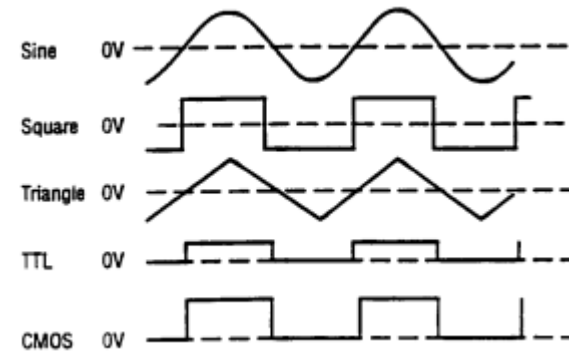

Figure 2. Output Waveform and Phase Relationship
- Initially, verify that the **DUTY CYCLE** (2), **CMOS LEVEL** (3), **DC OFFSET** (4), **-20dB** (5), and **SWEEP EXT/INT** (22), and **AM/FM** (35) switches are in the released position. This will produce a symmetrical waveform unaffected by the sweep generator and other controls.
- Plug the unit into an appropriate power source and turn it on by depressing the **POWER** switch (1).
- Select the desired waveform (**SINE**, **SQUARE**, or **TRIANGLE**) by depressing one of the **FUNCTION** switches (9). Phase relationships of the waveforms are shown in Fig. 2.
- Select the frequency of the waveform by depressing one of the **RANGE** switches (6). The output frequency is displayed, along with the appropriate measurement units. **KHz** or **Hz** (31), on the LED display.
- Rotate the **COARSE** (28) frequency control to quickly set the output frequency to the approximate desired value. The **FINE** (26) frequency control can then be used to easily set the output to the specific desired value. The frequency selected is available at the **OUTPUT** jack (13). In addition, a digital signal, either **TTL** or **CMOS** is available at the **TTL/CMOS** jack (15) (refer to the “TTL/CMOS OUTPUT” section of this manual).